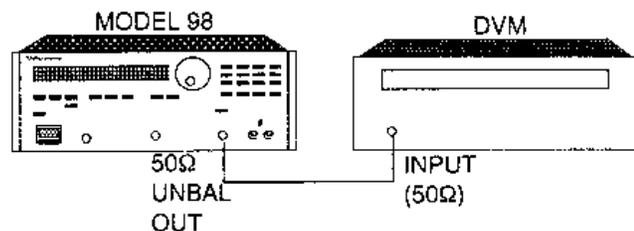

Figure 2-3. 50 Ω Amplitude Measurement Setup
2. Connect the Model 98 and test equipment as shown in figure 2-3.